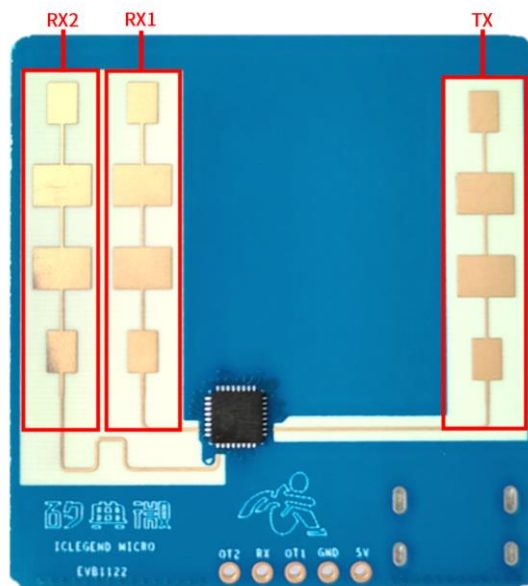
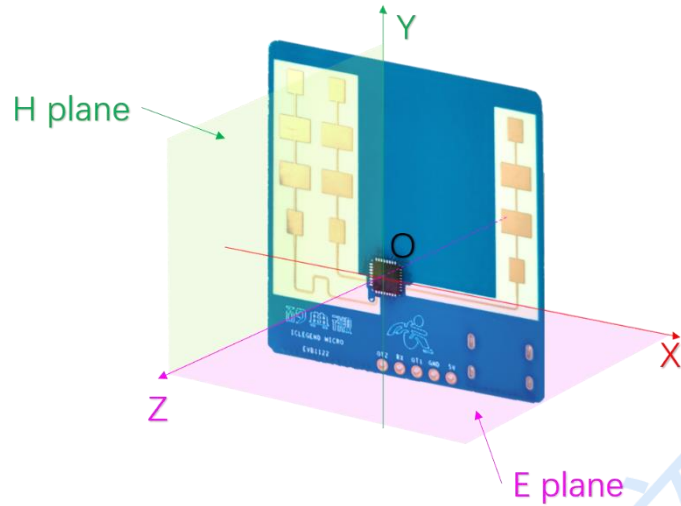

Figure 2-2 Antennas on EVB1122 evaluation board
Figure 2-3 Illustration of H-plane and E-plane
The antenna photos of the EVB1122 evaluation board are shown in Figure 2-2. The antenna radiation patterns for the H-plane and E-plane are illustrated in Figure 2-4 and Figure 2-5, respectively.
*Note: take Figure 2-2 as a reference plane, the horizontal direction is X axis(as shown in Figure 2-3), vertical is Y axis, O is the crossing point of X axis and Y axis, Z axis is the direction that is vertical to plane XOY; so E-plane denotes plane YOZ, and H-plane XOZ.*